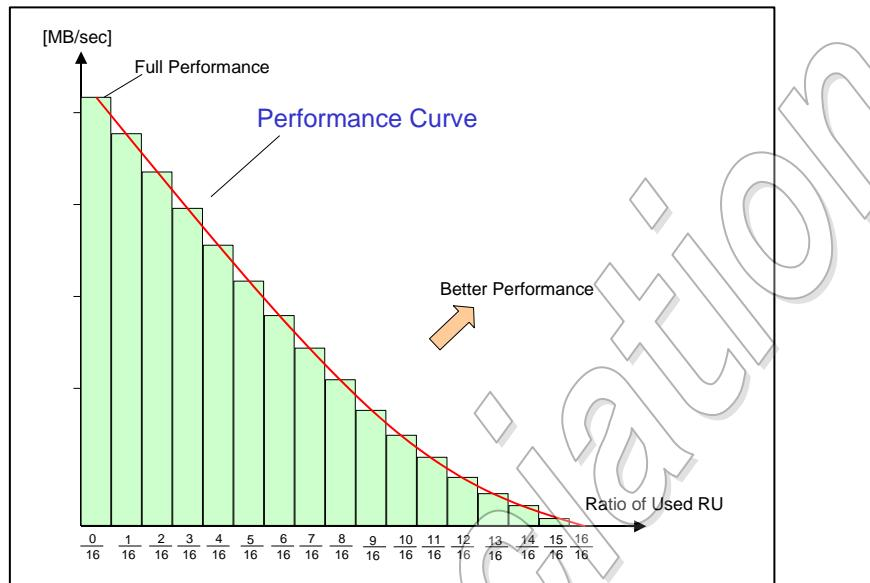

Figure 4-49 : Card Performances between 16 RUs
Figure 4-49 shows the write performance bar chart of  $P(N_u)$  of equitation (1). An AU consists of 16 RUs in this example. Joining the points of each bar shows the performance curve, which can be determined from the two parameters,  $P_w$  and  $P_m$ .